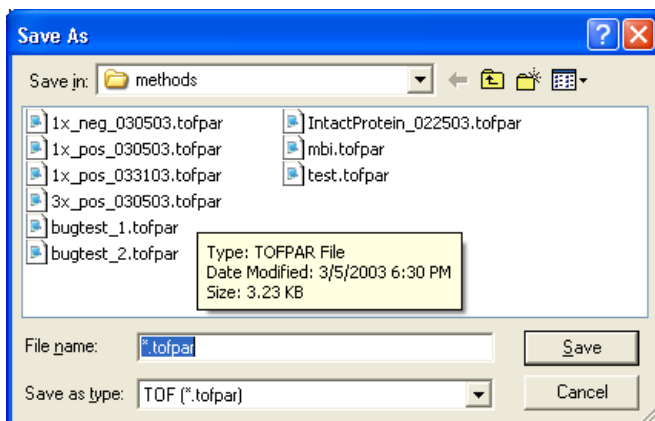

Figure 7-11 Save As Dialog Box for Saving a Method
1. Choose **Method > Save As** to open a Save As dialog box (Figure 7-11).